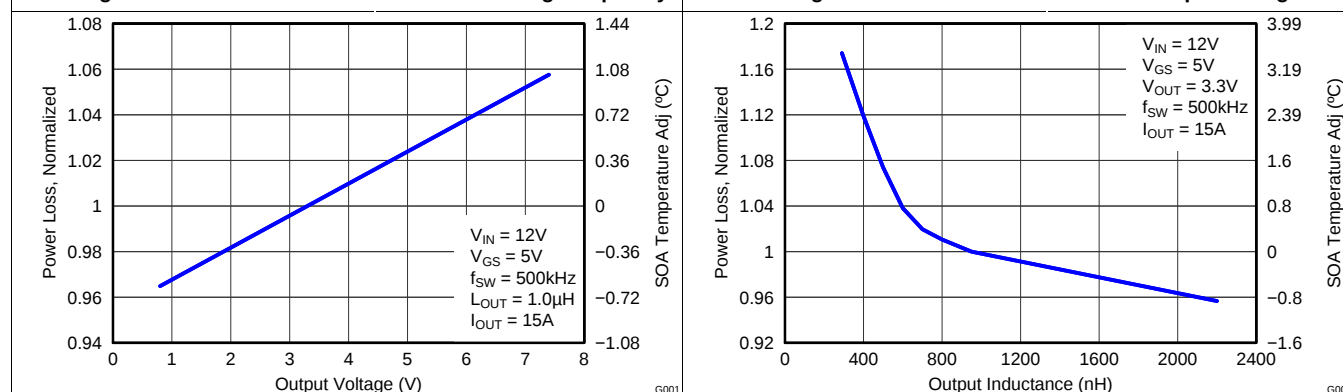

Figure 7. Normalized Power Loss vs Input Voltage
- Normalized Power Loss for input voltage ≈ 1.10 (Figure 7)
- SOA adjustment for input voltage $\approx 2.0^{\circ}\text{C}$ (Figure 7)